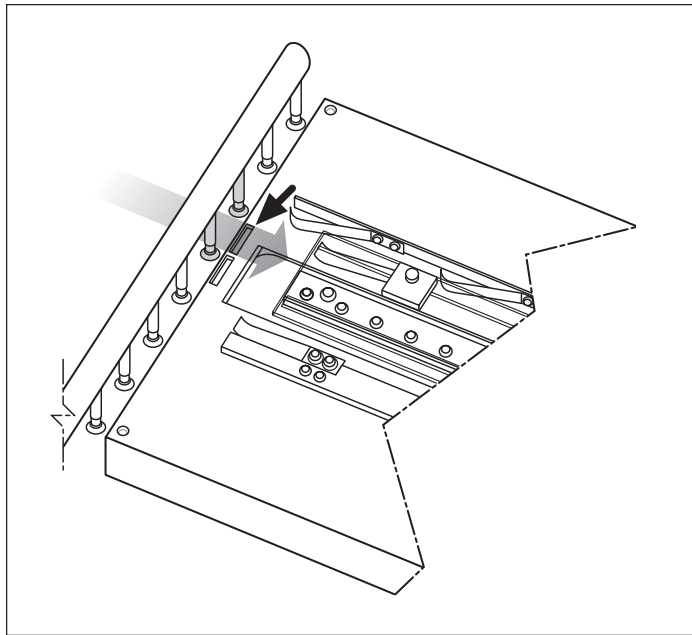

Figure 20. Adjust the Bottom Photo Sensor
3. Move the bottom photo sensor so it is positioned between the sucker feet (Figure 20). Note that the sensor is at an angle, so it should be slightly offset from center.